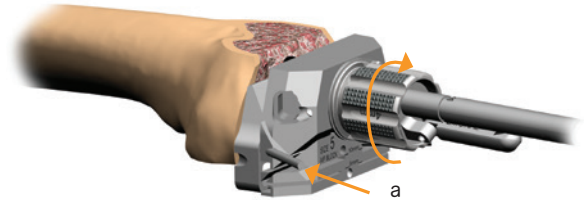

Figure 57
6. Tighten the offset valgus collet to the reamer shaft (or Trial Stem Connection Rod Assembly). Pin the A/P cutting block to the distal femur through the central hole and secure with oblique pin(s) through the sides of the A/P cutting block and distal shims (Figure 57).